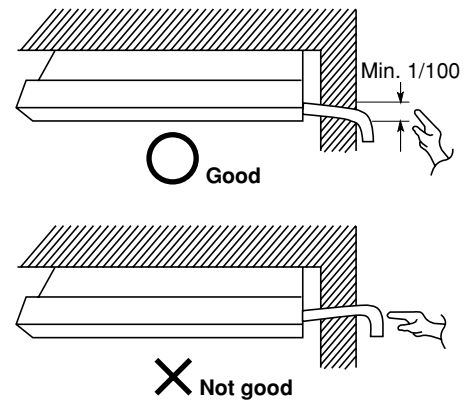

Fig. 3-53
- Connect the drain piping so that it slopes downward from the unit to the outside. (Fig. 3-53)